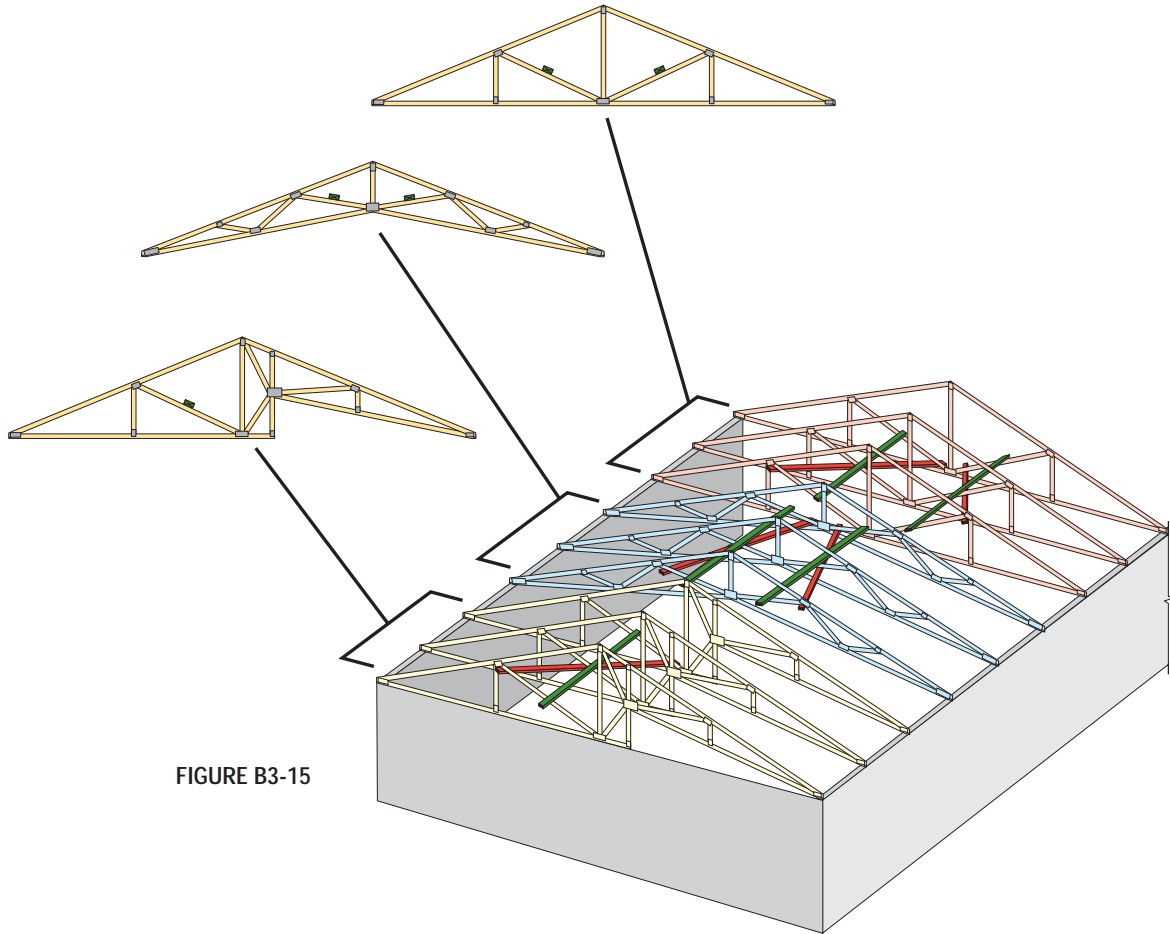

FIGURE B3-15
- ✓ Diagonal Bracing combined with Lateral Restraint can also be used with small groups of trusses. Figure B3-15, page 43, provides an example of a building containing nine trusses with three different configurations. Each truss configuration contains web members that require Lateral Restraint and these web members are in different locations for each configuration. To ensure the webs of these trusses are properly braced, install LRs (*shown in green*) and Diagonal Bracing (*shown in red*) within each group of trusses. Extend the Diagonal Bracing from the Top Chord to the Bottom Chord of the adjacent trusses. Attach the Diagonal Bracing to the web of the middle truss near the location of the CLR and to each intersecting truss. This provides the rigidity that prevents the webs and the CLR from displacing laterally.